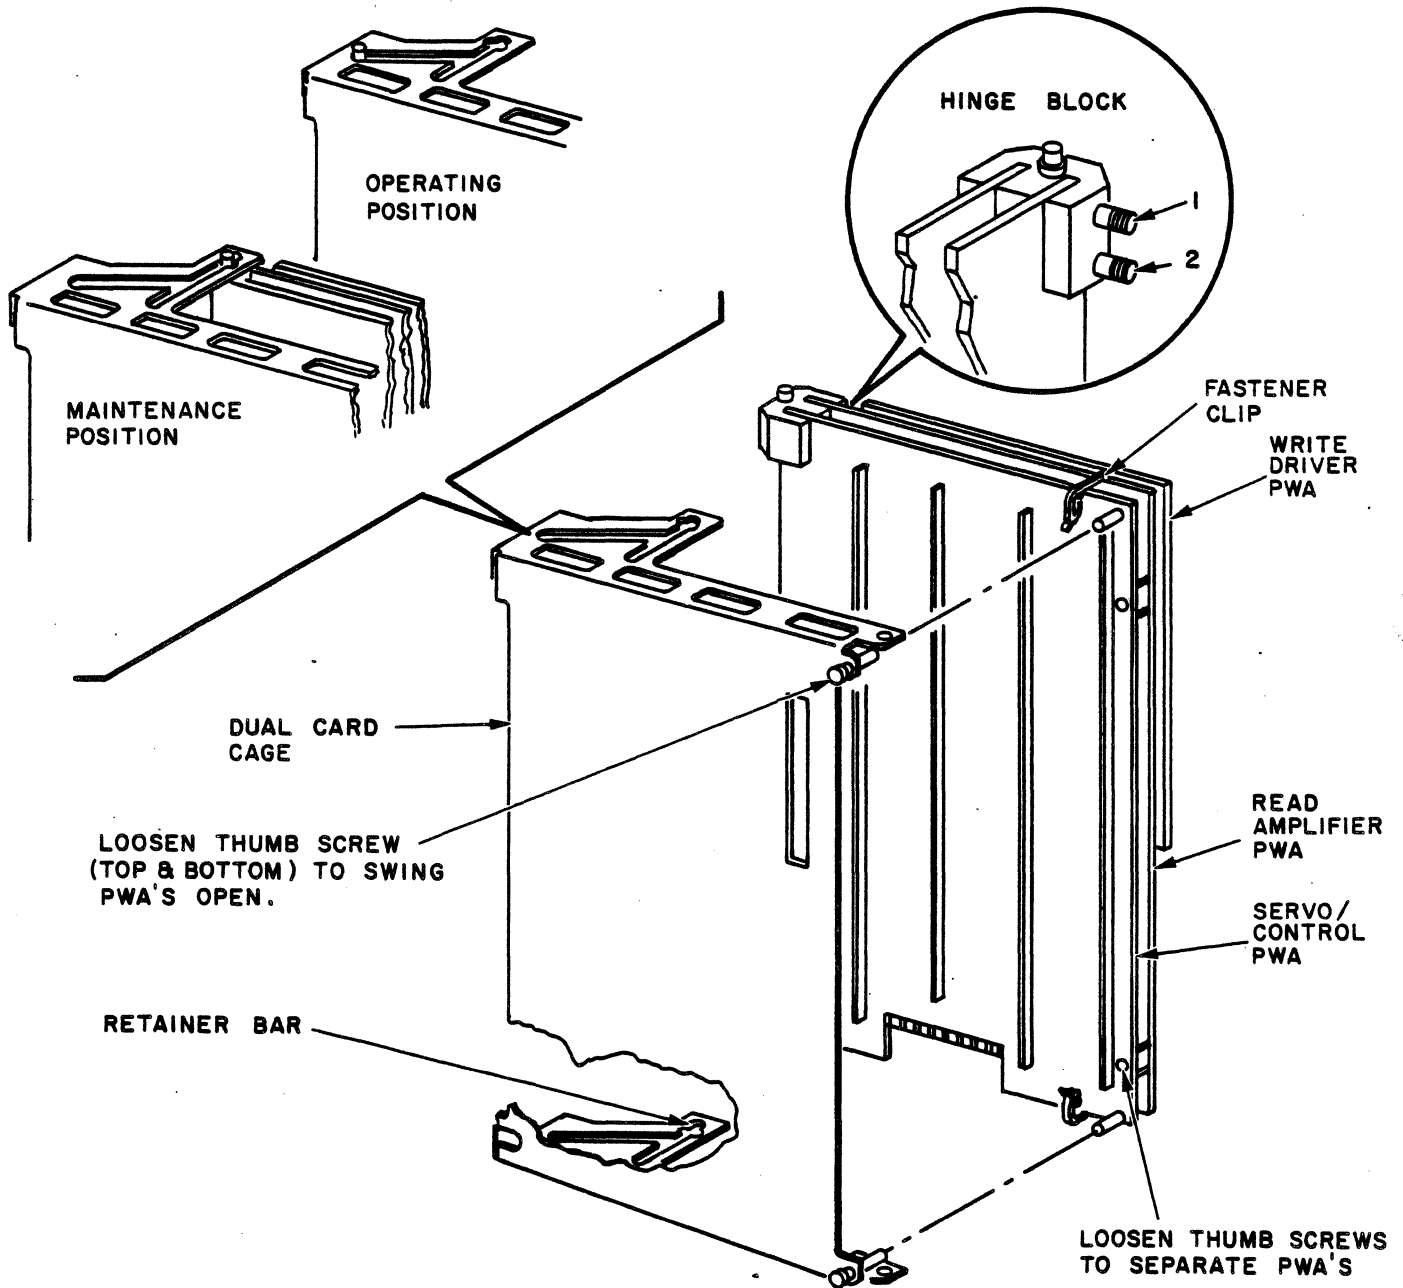

Figure 6-31. Write Driver/Read Amp/Servo-Control PWA's
2. Loosen the top and bottom thumb screws securing the servo/read/write card set to the card cage (figure 6-31).
3. Slide out and reposition card set to maintenance position. Remove yellow fastener clips from top and bottom of card set (figure 6-31).
6. Reinstall yellow fastener clips on top and bottom of card set (figure 6-31).
5. Return read/write/servo card set to operating position. While holding it in place, tighten top and bottom thumb screws to secure card set to card cage (figure 6-31).
3. Slide card set out to maintenance position. Remove yellow fastener clips from top and bottom of card set (figure 6-31).
5. Loosen the two thumb screws (figure 6-31) and separate the servo-control PWA from the read amplifier PWA. Avoid undue stress on the PWA by loosening the thumb screws alternately and separating the PWA as the screws are loosened.
6. Loosen and back out only the top screws (see figure 6-31) of each hinge. Loosen the bottom screws one-half turn (do not remove). Hold the PWA in place while loosening the screws.
5. Reinstall yellow fastener clips on top and bottom of card set (figure 6-31).